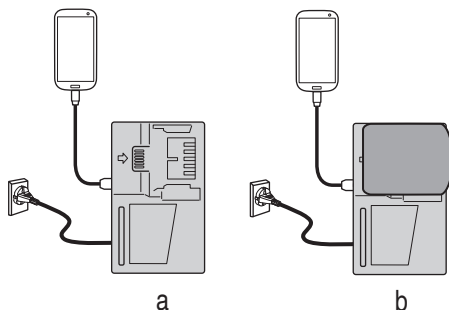

Fig. 14
- Charging a USB device from a electrical outlet (**Fig. 14-a**).
- Charging a USB device and battery from a electrical outlet. (**Fig. 14-b**)